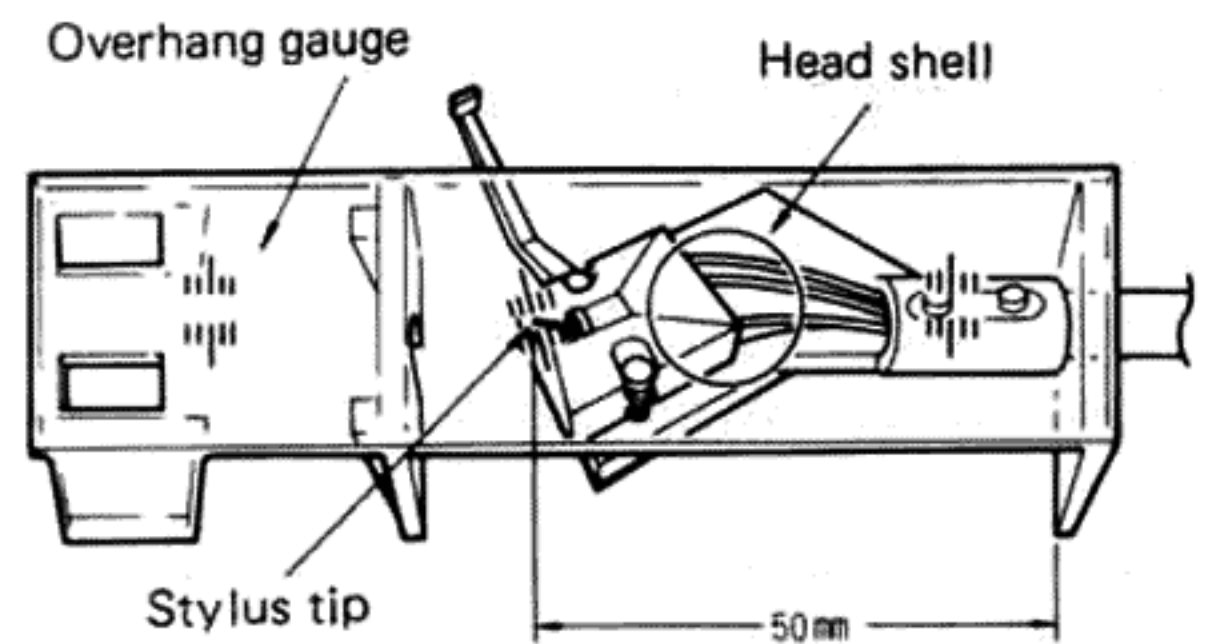
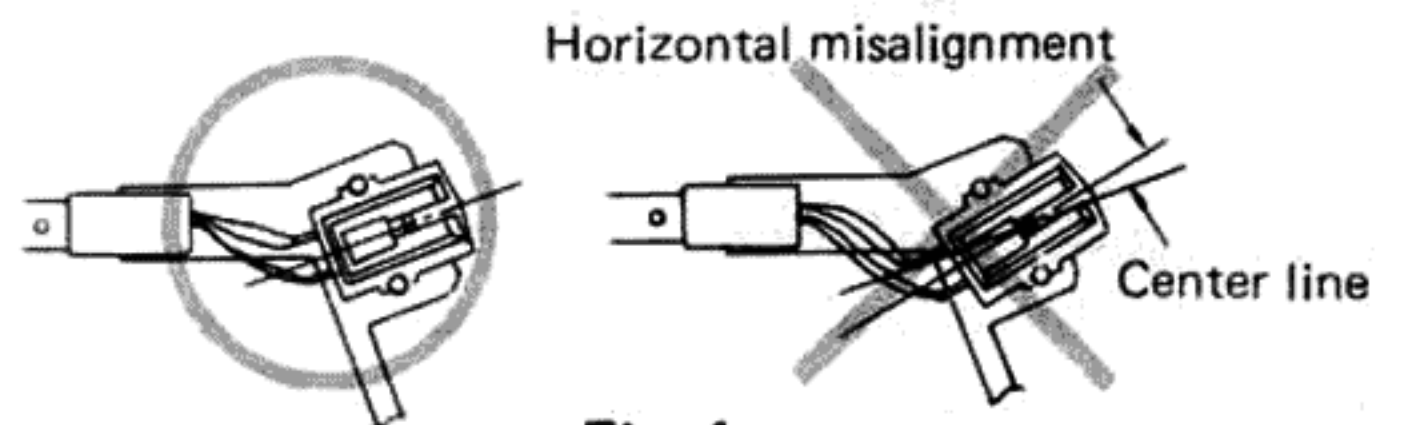
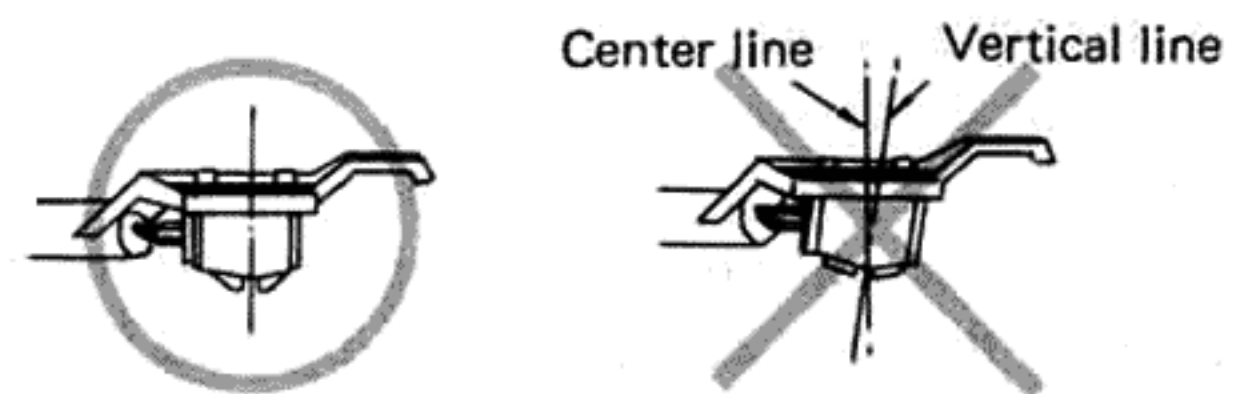

Fig. 3
Fig. 4
Fig. 5
- (2) When installing the cartridge, tighten the cartridge fixing screws lightly to allow the cartridge to move a little. Then, adjust the cartridge overhang, with the aid of the overhang gauge, by moving it forward or backward so that the stylus tip is positioned 50 mm away from the rear end of the headshell, as shown in Fig. 3. Next, align the cartridge with the headshell horizontally (Fig. 4) and vertically (Fig. 5). Tighten the screws fully to secure the cartridge.